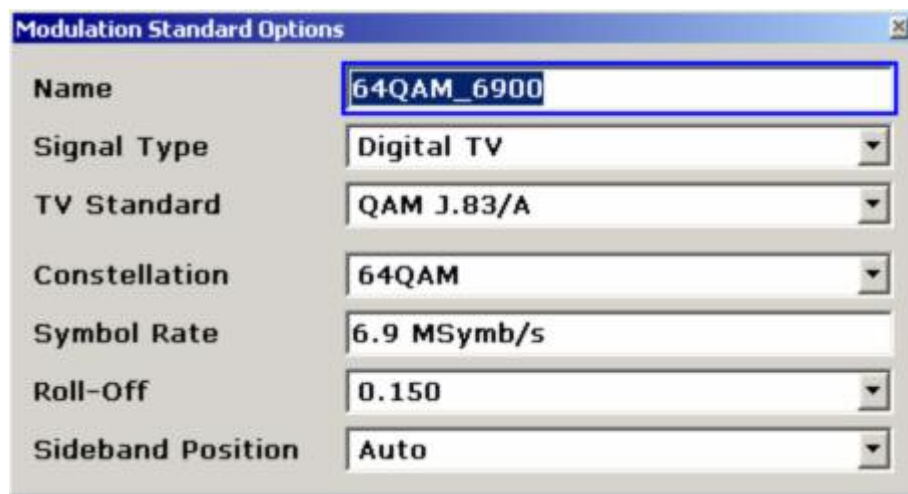

Fig. 2–52 Digital TV modulation standard 64QAM_6900
- The **Modulation Standard Options** dialog box should now look as in Fig. 2–52.